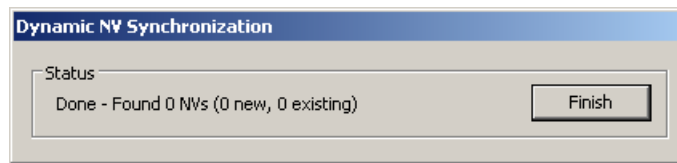

Figure 99: Synchronizing dynamic NVs from the device.
2. Right-click and select **Sync Dynamic NVs** in the context menu. The L-Gateway configuration software then loads any new dynamic NVs, which have been created and are not yet part of the port interface definition. The process completes when the dialog shown in Figure 99 appears.